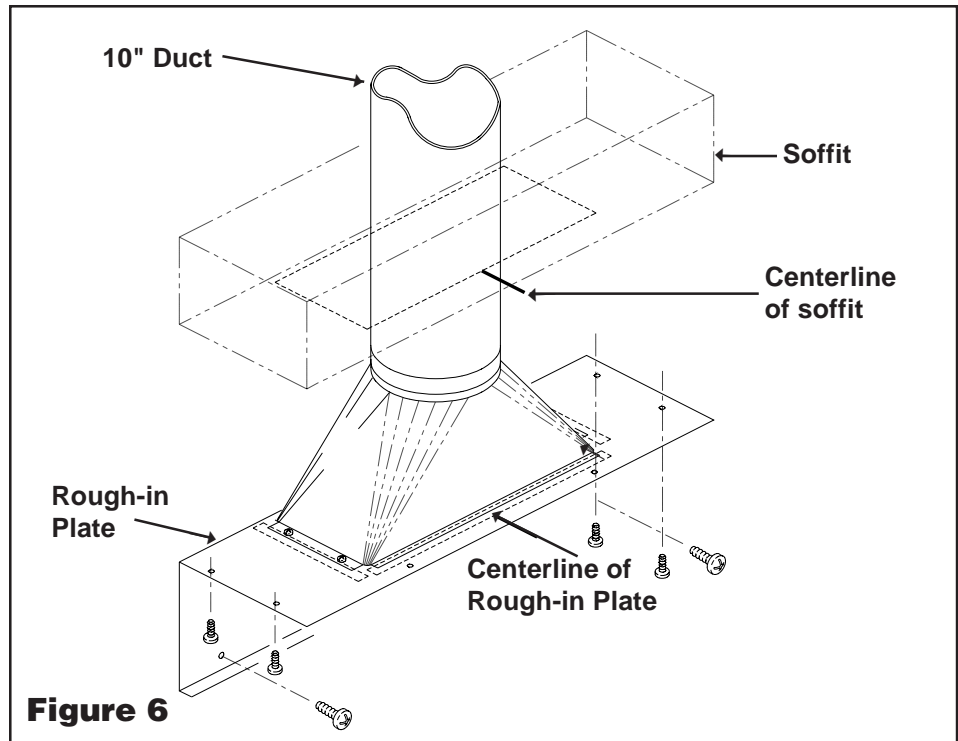

Figure 6
5. Mark the center line of the rough-in plate and align with center line of the soffit. See Figure 6.
6. Install rough-in plate to the soffit, using four (4) #10x1" screws packed with the plate. (See example for 36" hood in Figure 6 on Page 6). These screws must be driven into the soffit framing.
7. Secure the back side of the rough-in plate to the finished drywall. Use wall anchors for the drywall if the two (2) screws do not hit the wall stud.